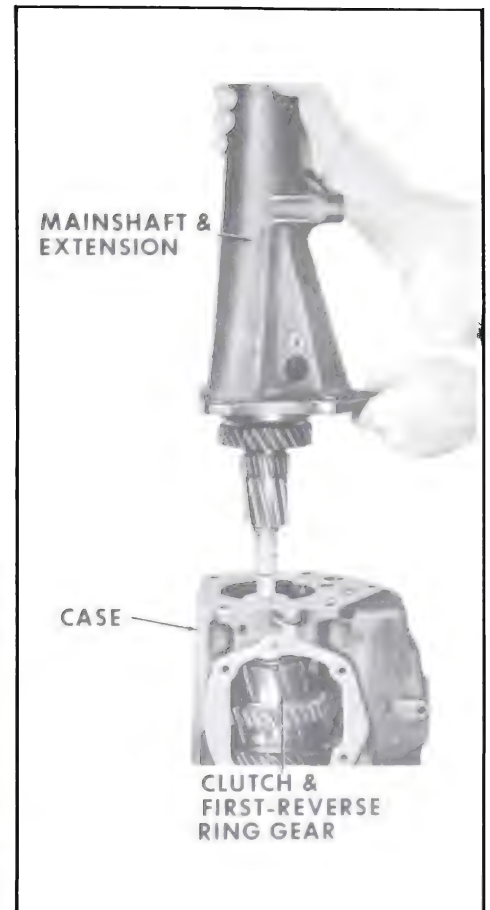

Figure 4-39—Mainshaft and Extension Installation
18. Align lugs on synchronizer rings with slot in mainshaft so that the lugs slide in slots on gear. Be sure that the clutch gear roller bearings are still in position. Push the shaft into the clutch sleeve until the extension is tight against the case. See Figure 4-39. Install bolts and lock washers. Torque to